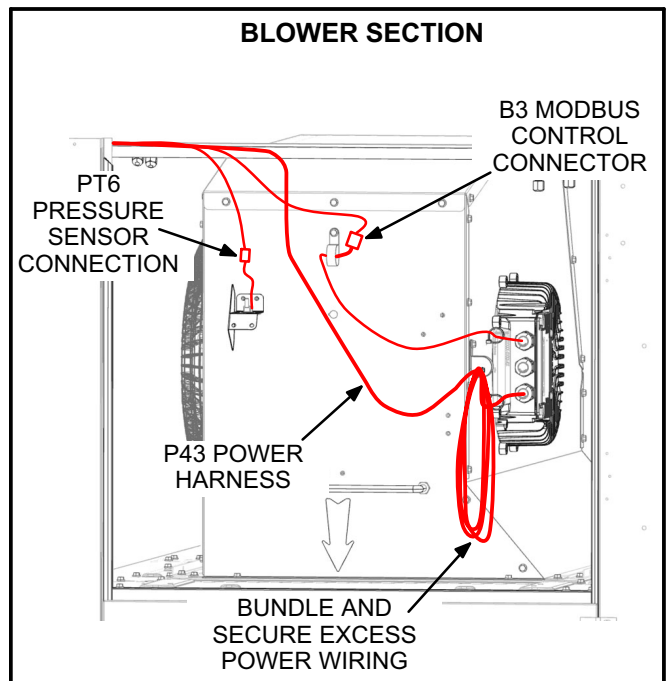

FIGURE 2
- 3- Disconnect B3 Modbus connection and PT6 connection in the blower section. See figure 2.
- 18- Connect P48, B3 Modbus, and PT6 connections as shown in figures 2 and 3.